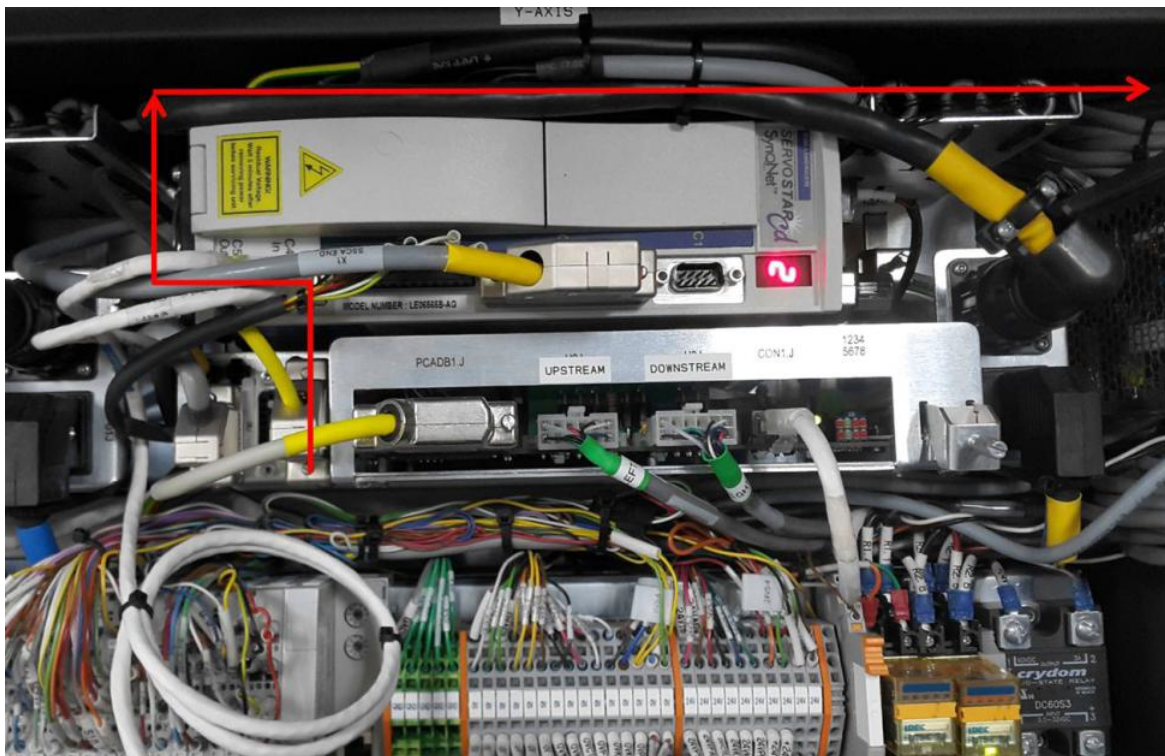
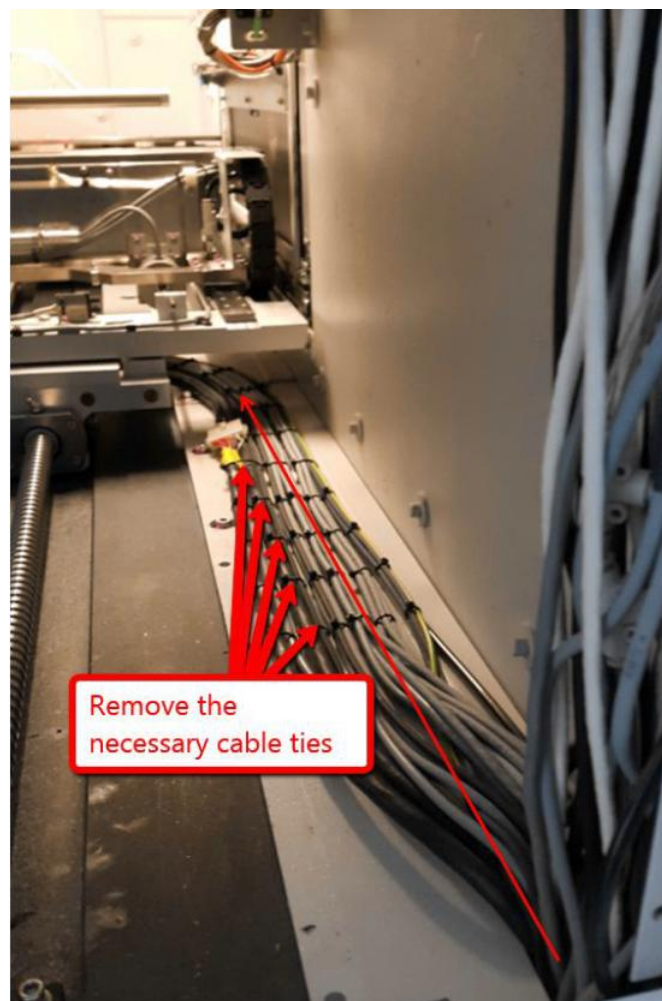

Figure 10 SSCA Y-Axis
Figure 12 Cable Routing
10. Remove Y axis Read Head Encoder by refer routing which illustrated from Figure 10 to Figure 12